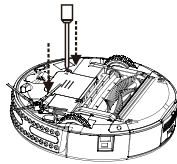

Fig.1
1. Remove 2 screws to open battery compartment door. (See Fig. 1)